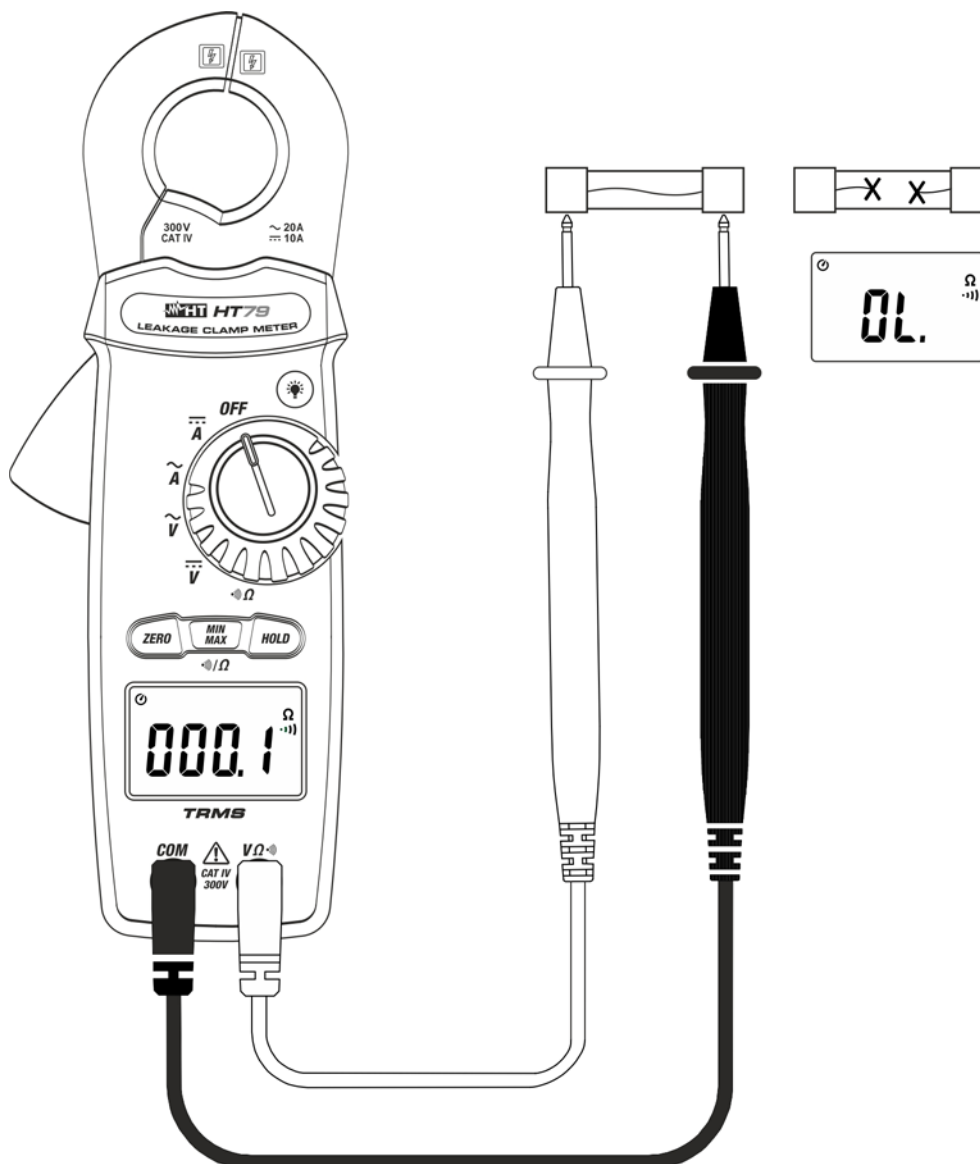

Fig. 7: Use of the instrument for Continuity test
3. Insert the red cable into input terminal **V Ω** and the black cable into input terminal **COM** and carry out the continuity test on the object to be tested (see Fig. 7). A buzzer sounds when the measured value of resistance is lower than 100. Ω